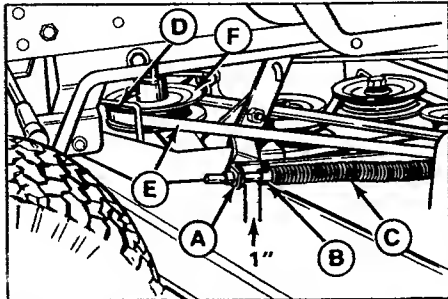
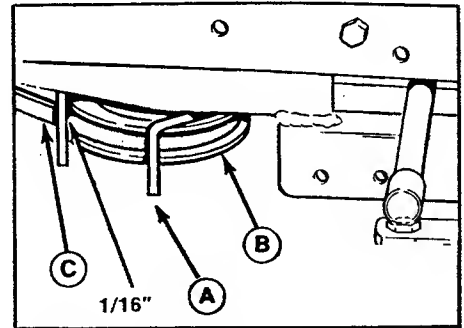

Figure 29. Mower Drive Belt Tension Adjustment - 42" & 48"
Figure 30. Right-Hand PTO Pulley Belt Stop
- Measure the distance between the PTO rod guide (A, figure 29) and the set collar (B). The distance should measure one inch. If not, proceed to step 3.
- Loosen the setscrew in the set collar (B). Move the rod forward to increase gap, or backward to decrease gap. Retighten the setscrew.
There are two belt stops at the PTO pulley; one on the left (D, figure 29) and one on the right (A, figure 30). With the PTO lever engaged, measure the distance between the belt stop and belt. There should be 1/16 inch (1.5 mm) clearance between each belt stop and the belt. To adjust a belt stop, loosen its mounting capscrew, move the belt stop, and retighten the capscrew. Recheck the measurement.